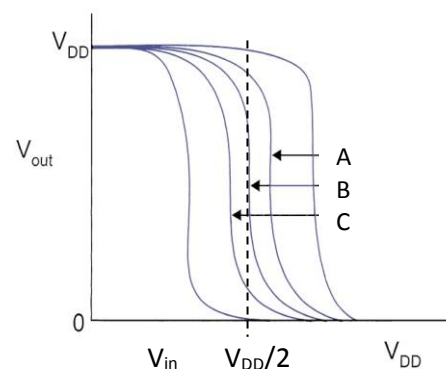

Fig. 7
- Fig.7 shows the transfer curves of CMOS inverter with $\mu_n/\mu_p = 3$ and $V_{tn} = |V_{tp}| = 0.5V$ (10%)